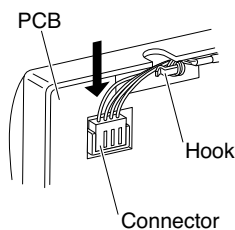
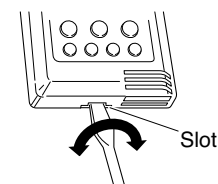

Fig. 4
Fig. 5
- (4) Pass the wire harness connector through the cord opening on the back plate of the remote controller.
- (5) Insert the connector into the PCB of the remote controller unit, and wrap the wire harness around the hook. (Fig. 4)
- (6) Store the excess wire harness inside the junction box, then hook the remote controller unit onto the top of the back plate and install the remote controller unit.
- (7) To remove the remote controller unit after it has been installed, insert a flathead screwdriver into the slot on the bottom of the case and turn it. (Fig. 5)
- (3) Insert the connector into the PCB of the remote controller unit, and wrap the wire harness around the hook. (Fig. 4)
- (4) Use nippers or a similar tool to cut out the slot on the top of the remote controller unit. Pass the wire harness through the slot, then hook the remote controller unit onto the top of the back plate and install the remote controller unit.
- (5) In order to conceal the exposed wiring, use a wire cover (locally purchased) or similar means.